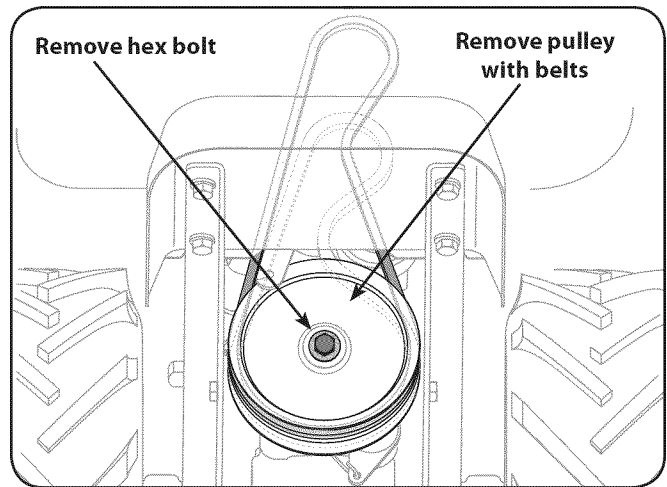

Figure 8-5
6. Remove the hex bolt securing the transmission drive pulley, then remove the pulley along with the two belts. See Fig. 8-5.